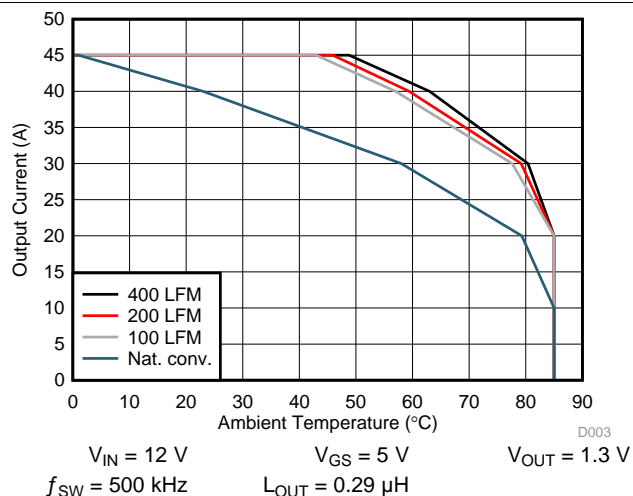

Figure 3. Safe Operating Area (SOA) – Thermal Airflow Measurement PCB Vertical Mount
$T_J = 125^\circ\text{C}$ , unless stated otherwise. The Typical Power Block System Characteristic curves Figure 3, , and Figure 4 are based on measurements made on a PCB design with dimensions of 4" (W)  $\times$  3.5" (L)  $\times$  0.062" (H) and 6 copper layers of 1-oz. copper thickness. See Application and Implementation for detailed explanation.
The SOA curves in the CSD87355Q5D data sheet provides guidance on the temperature boundaries within an operating system by incorporating the thermal resistance and system power loss. **Figure 3** to **Figure 4** outline the temperature and airflow conditions required for a given load current. The area under the curve dictates the safe operating area. All the curves are based on measurements made on a PCB design with dimensions of 4" (W)  $\times$  3.5" (L)  $\times$  0.062" (T) and 6 copper layers of 1-oz. copper thickness.